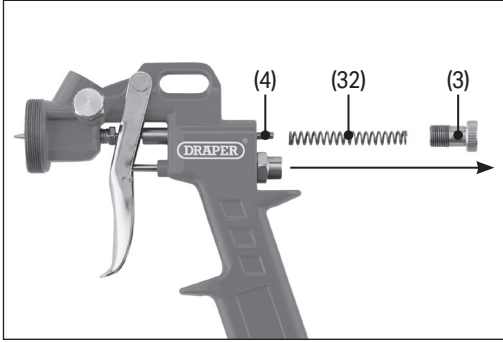

Fig. 20
- a. Rotate the fluid control dial (3) anticlockwise until it comes away from the spray gun body (Fig. 20).
- b. Remove the spring (32) and the fluid needle (4) from the chamber via the back of the spray gun.